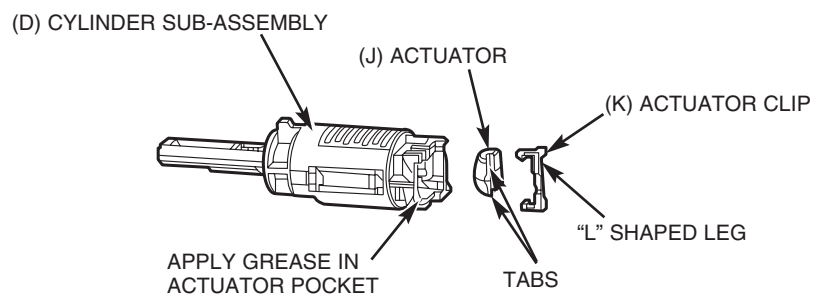

FIGURE 4
6. Apply grease to the actuator pocket located in the head of the cylinder. Insert actuator into the pocket by placing it in the actuator pocket "rounded" side down with the two small tabs toward the outside. It is properly orientated if the flat rectangular surface of the actuator covers the key opening. Snap the plastic actuator clip over the actuator to hold it in place. Note the correct orientation on the "L" shaped leg on the clip (refer to Figure 4).